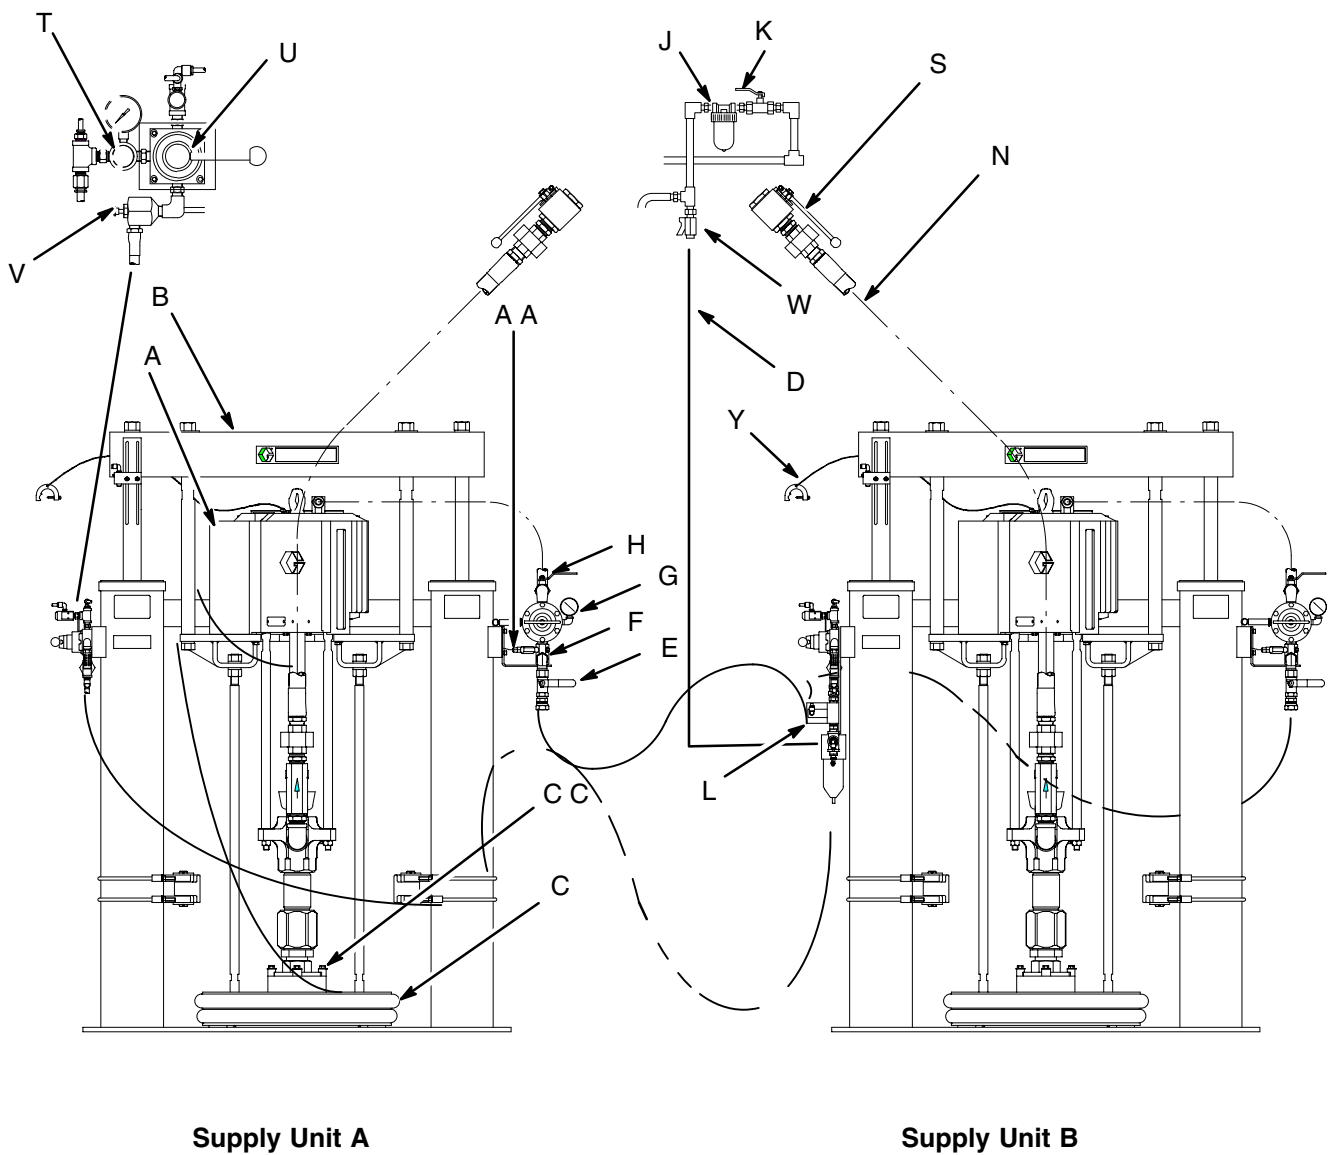
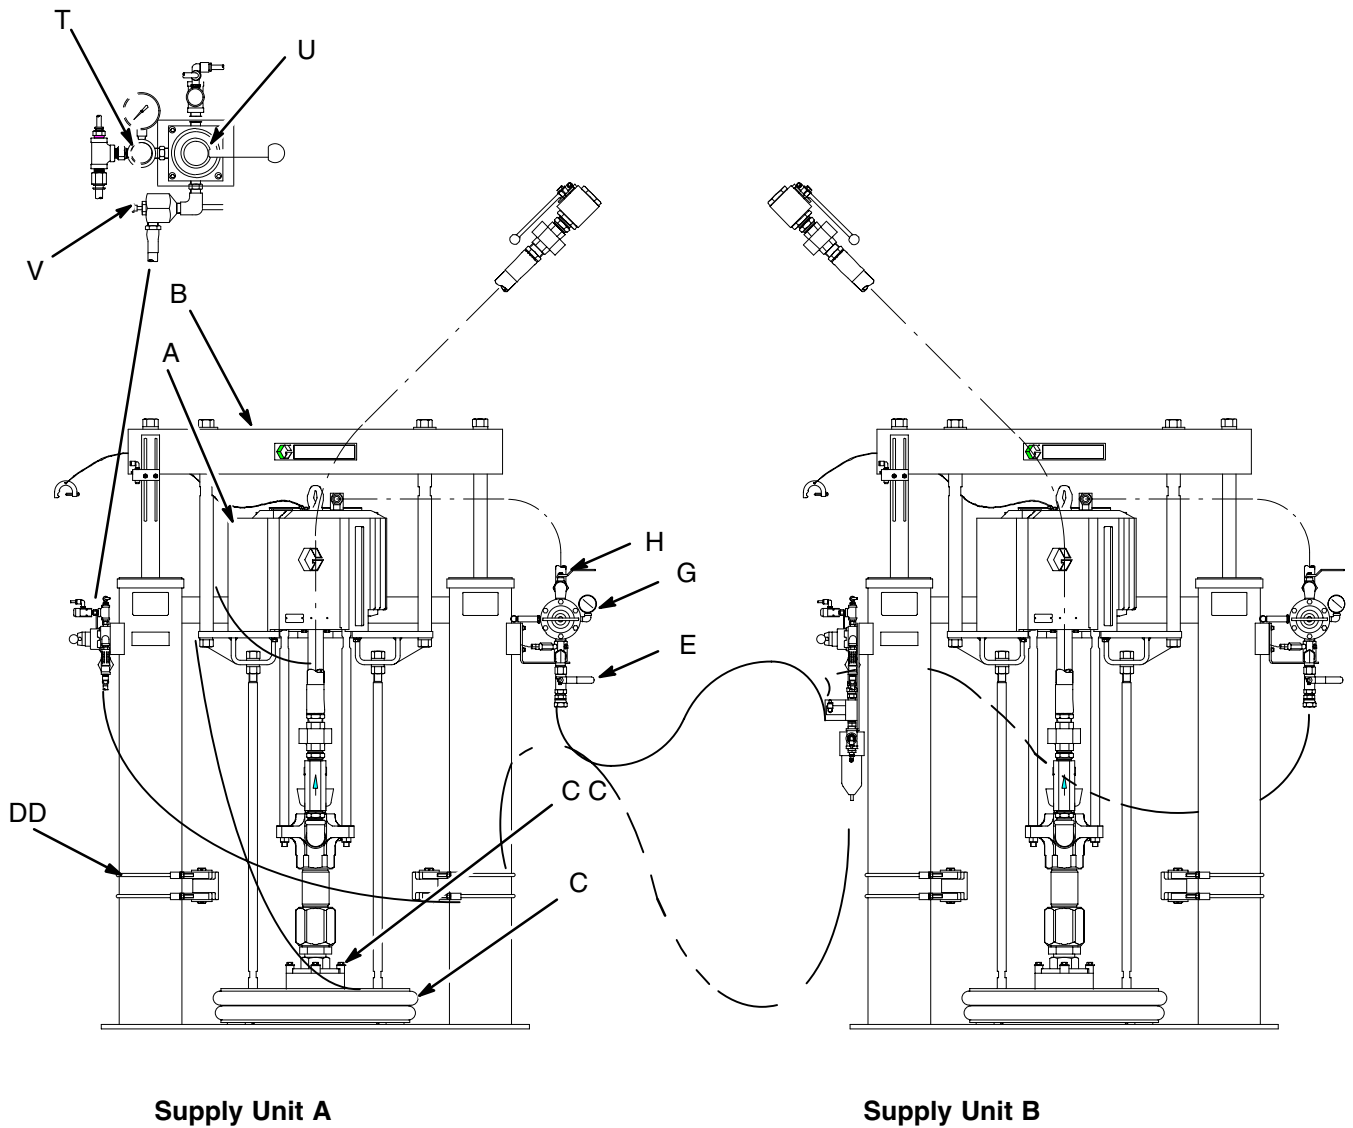

Fig. 1
Fig. 7
Systems 970067 and 970070 include dual 55 gallon supply units with pneumatic crossover (918393) for continuous material supply. System 970063 is a dual 55 gallon supply unit with an electrical crossover (C59519) for continuous material supply. System 970206 is a single 55 gallon supply unit with a low-level shutoff (918478). See Fig. 1.
Be sure all air hoses (D) and fluid hoses (N) are properly sized and pressure-rated for your system. Use only electrically conductive hoses. See Fig. 1.
2. Close dispenser ball valves (S). Unhook ball valves from system. See Fig. 1.
3. Close pump air bleed valve (H, required in your system). See Fig. 1 or Fig. 7.
4. Shut off main air bleed valve (E, required in your system). Set ram director valve (U) to DOWN. Ram will slowly drop.
2. Close all air regulators and air valves on supply units being started. See Fig. 7.
3. Open main air bleed valve (E) and set ram air regulator (T) to 2.8 bar, 0.26 MPa (40 psi). Move director valve (U) handle so arrow points to UP, and let ram rise to full height.
5. Set full drum of fluid on ram base, slide drum back against tube stop, and center under ram plate (C). Use drum clamps (DD) to center, hold, and properly align drum with ram.
1. Be sure pump air regulator (G) is closed. Set ram air regulator (T) to 3.5 bar, 0.35 MPa (50 psi). Set director valve (U) to DOWN. See Fig. 7.
2. Open the pump air bleed valve (H). **Slowly** adjust the pump air regulator. This will start the pump and fill the material passage.
3. Keep director valve (U) set to DOWN while pump is operating.
1. Stop pump. Close pump air bleed valve (H). See Fig. 7.
2. Before raising wiper plate, locate push button on air release valve (V).
3. Set director valve (U) to UP to raise wiper plate. At the same time, carefully equalize pressure in drum by operating air release valve.
1. Set director valve (U) to neutral. See Fig. 7.